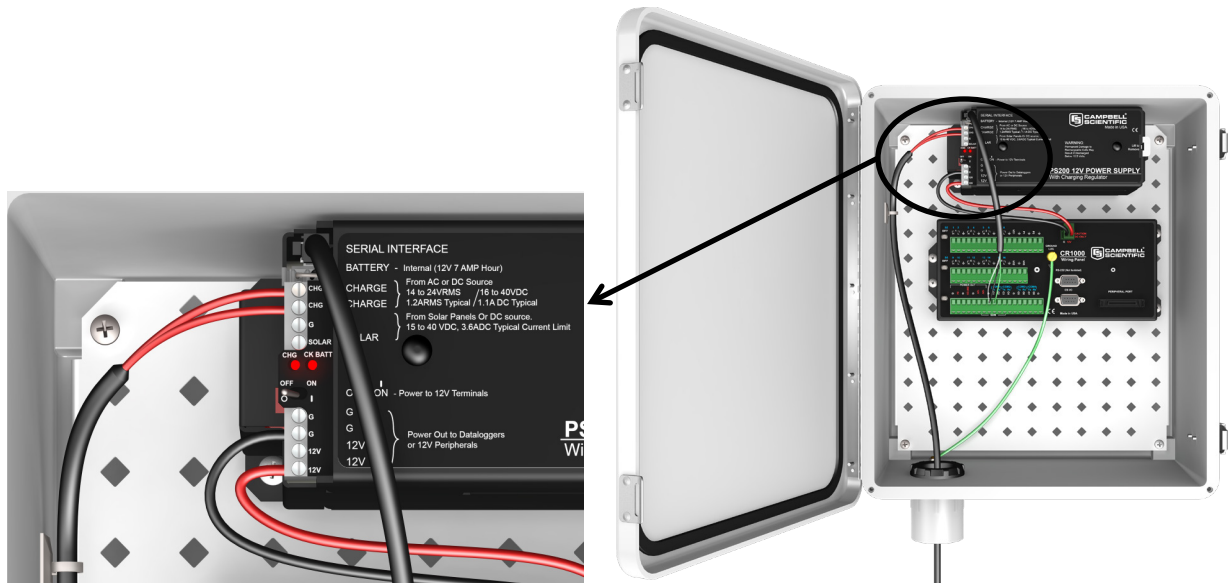
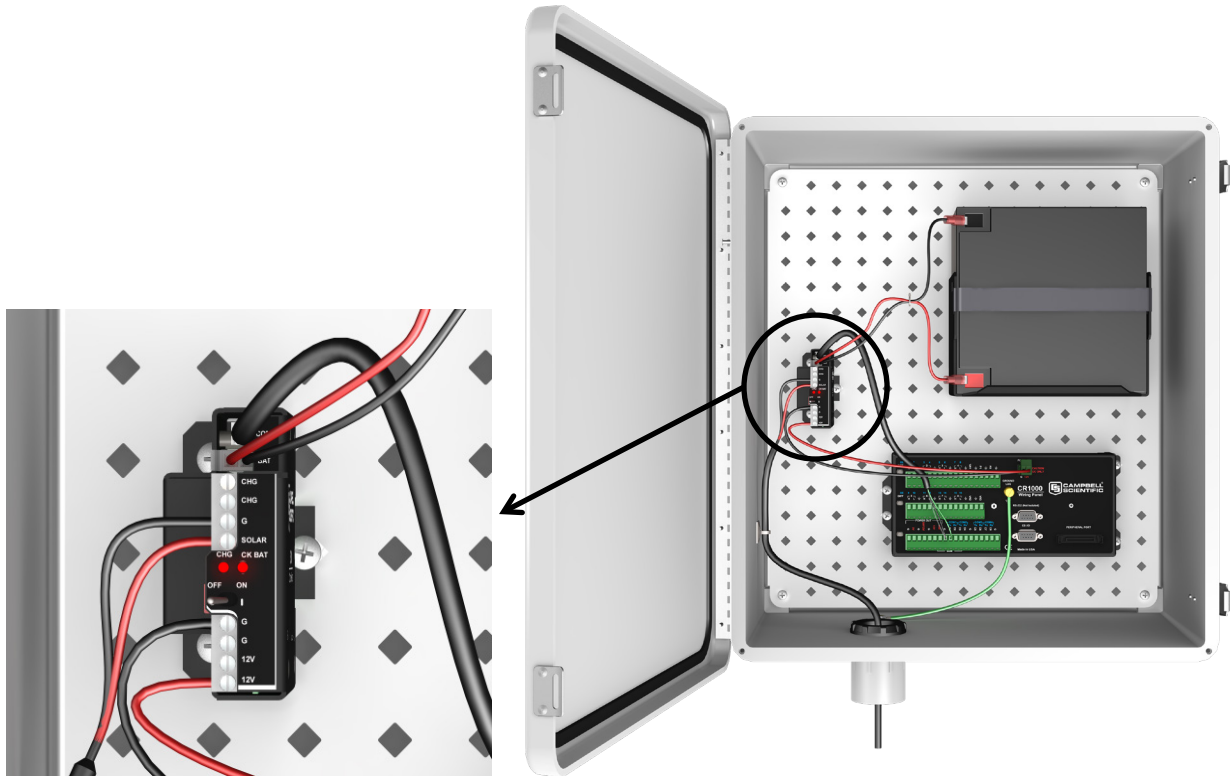

FIGURE 3-1. The PS200 connected to a CR1000 and AC power
FIGURE 3-3. CH200 connected to BP24 battery pack and CR1000
The PS200/CH200 modules are designed to handle extreme conditions and have the ability to transmit charging, load, and battery voltage and current information directly to a datalogger using special SDI-12 or RS-232 commands and associated communication cables. Using datalogger programming the data from the PS200/CH200 can be used to calculate a power budget for the entire system and help to remotely pin point any power problems. These cables are not required for normal operation and the modules are ready to use right out of the box. The modules have been designed with mounting holes on one inch centres for mounting to a standard Campbell Scientific enclosure back plate — see the enclosure manual for mounting suggestions. See FIGURE 3-1 through FIGURE 3-3 for typical enclosure installations using a PS200/CH200.
**NOTE** FIGURE 3-1 through FIGURE 3-3 show PS200/CH200 installations using a SDI-12 communication cable. A SDI-12 communication cable is not required for normal operation.